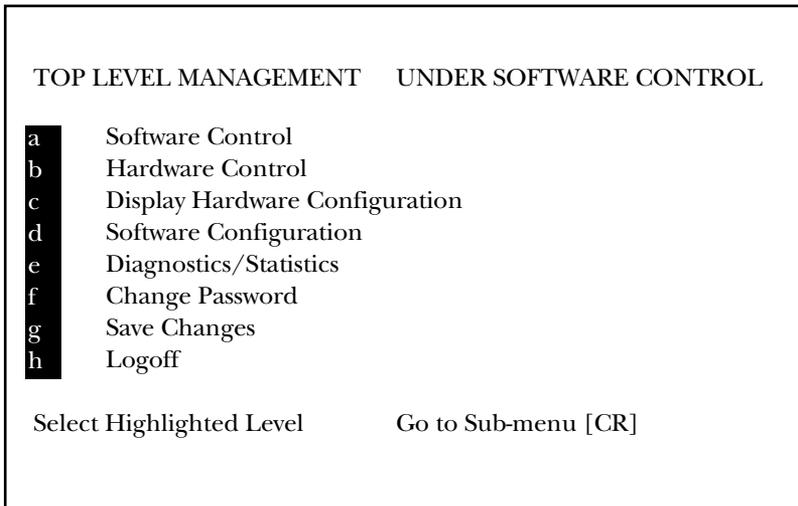

Figure 3-20. Main Menu.
6. The CSU/DSU will then display the Main Menu screen, as shown in **Figure 3-20**.